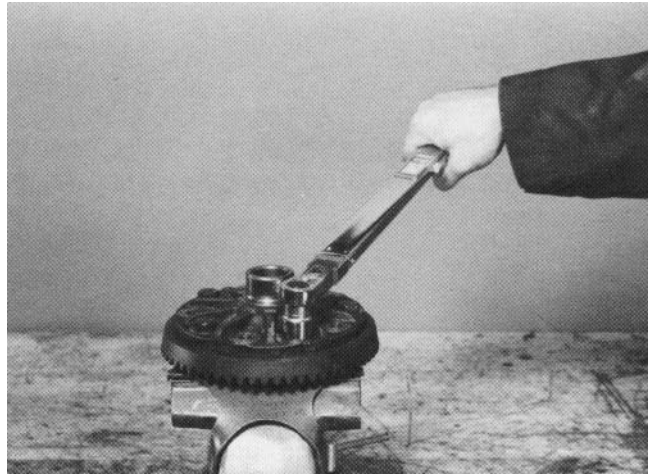

Figure 50
16. Put the ring gear onto the differential case and start the new capscrews into the gear with your fingers. Tighten the screws, alternating back and forth across the gear to allow the gear to be pulled evenly into place. Tighten the cap screws to a torque of 45-65 ft-lbs. (61-88 Nm) (Fig. 50).